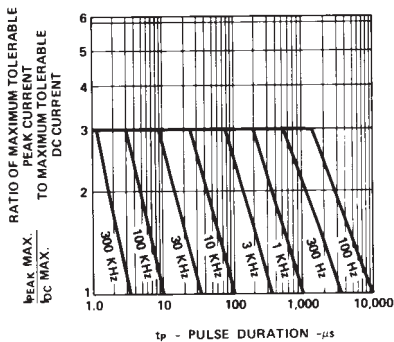

Figure 5. Maximum tolerable peak current vs. pulse duration. (I_{DC} MAX as per MAX ratings).
1. See Figure 5 (HER/Orange), 10 (Yellow), or 15 (Green/Emerald Green) to establish pulsed operating conditions.